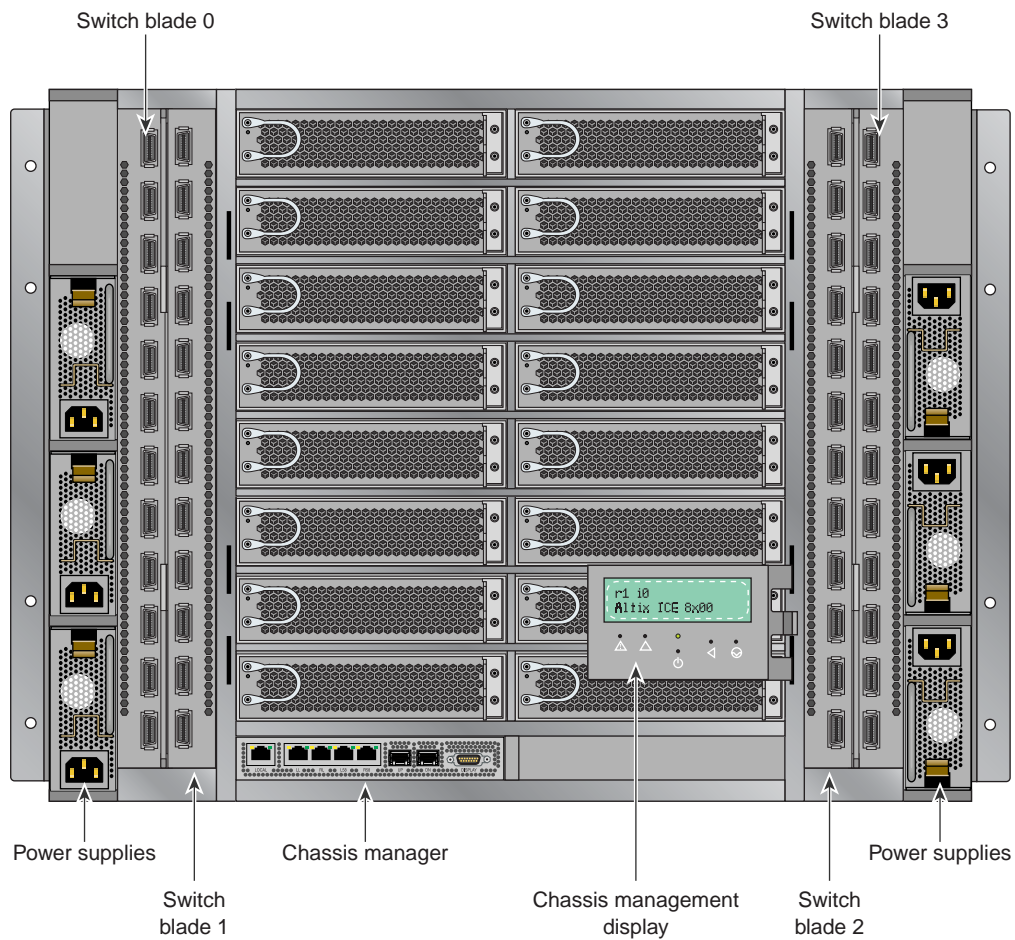
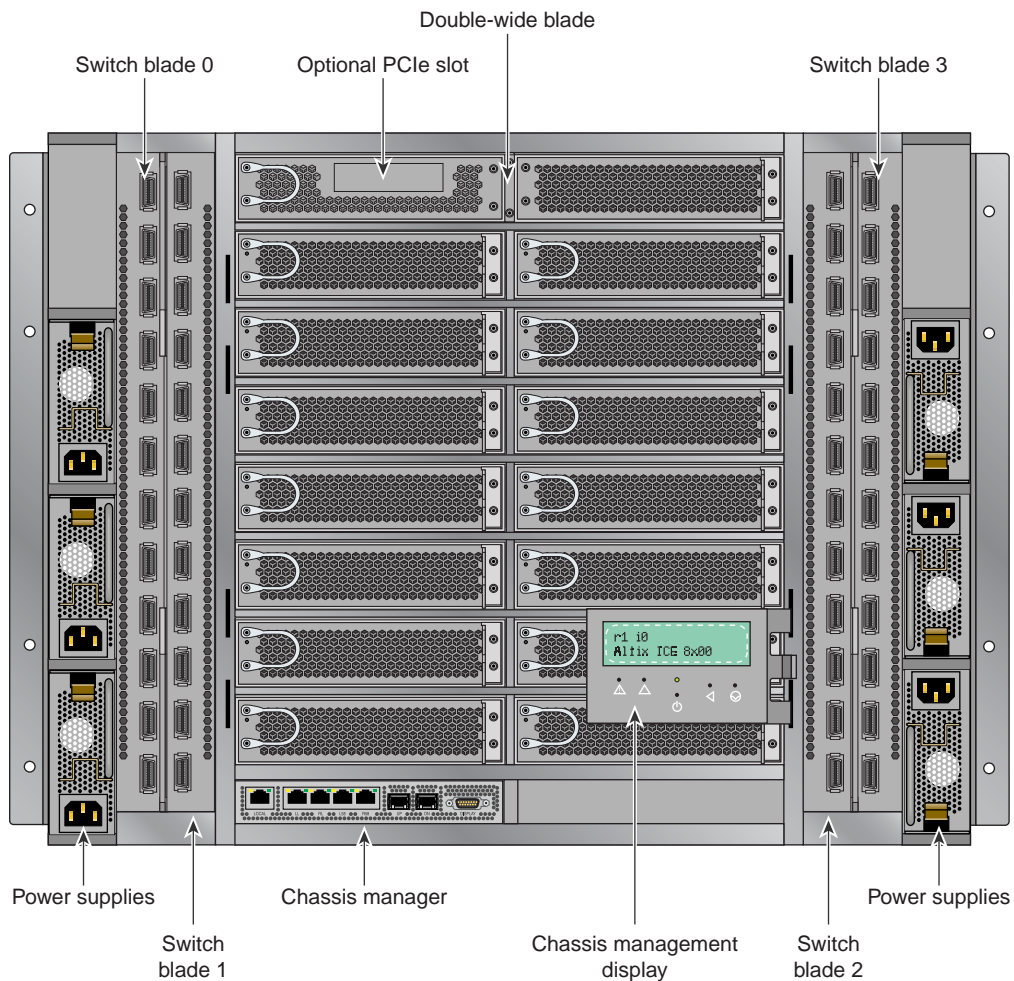

Figure 3-10 Altix ICE 8200 Series IRU System Components Example
Figure 3-11 Altix ICE 8200 Series IRU With Optional Double-Wide Blade Example
- **Individual Rack Unit (IRU).** This enclosure contains the compute/memory blades, chassis manager, InfiniBand fabric I/O blades and front-access power supplies for the Altix ICE 8200 series computers. The enclosure is 10U high. Figure 3-10 on page 40 shows the Altix ICE 8200 series IRU system components, Figure 3-11 on page 41 shows an example IRU with an optional double-wide blade installed in the top slot. Note the optional half-height PCIe slot in the double-wide blade's left section.